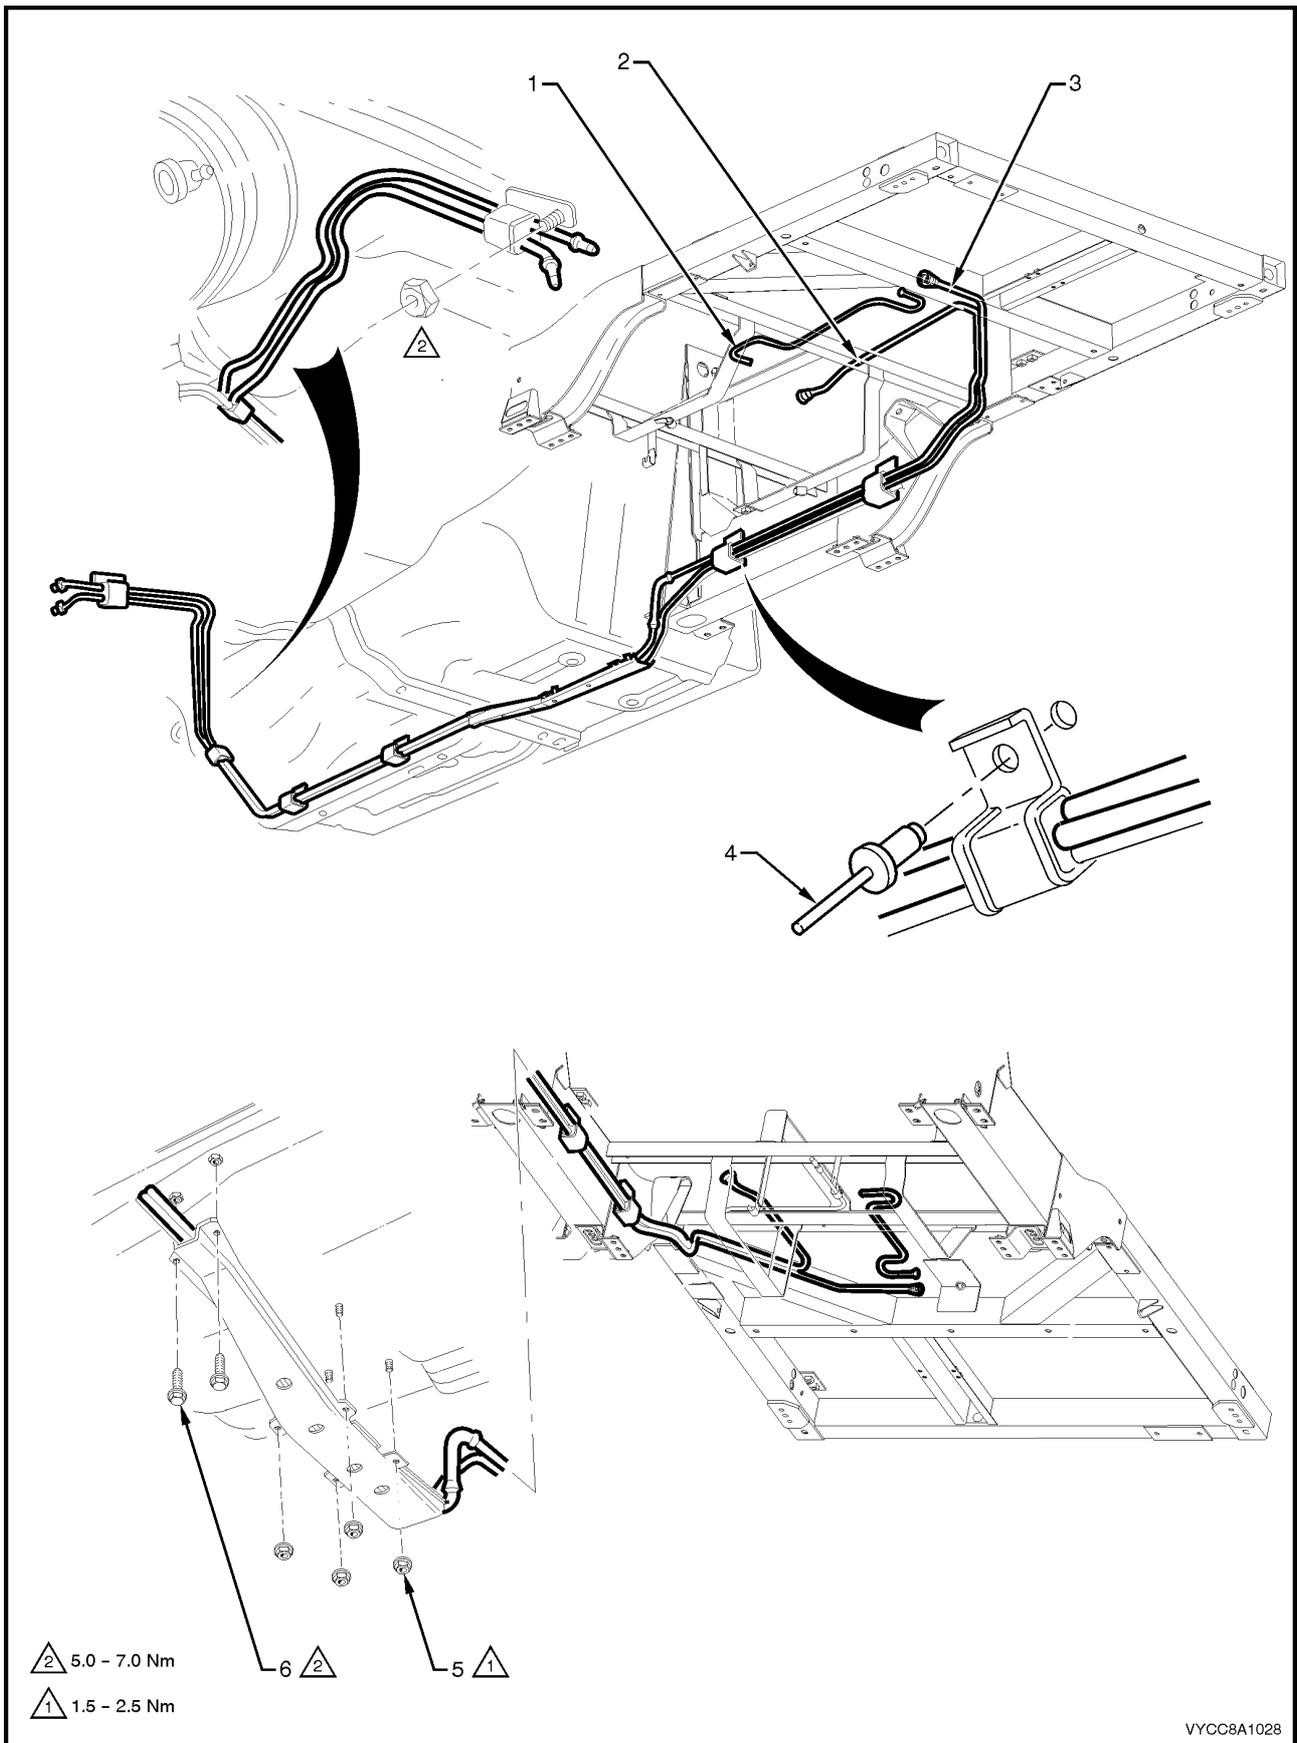

Figure 8A1 - 215
- 5 If required, remove the stone guards and fuel pipes. Use the following illustration showing the fuel pipe layout and location of other items relating to the fuel system as a guide, refer to Figure 8A1 – 215.